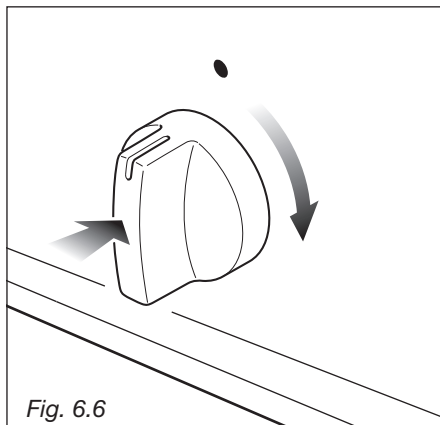

Fig. 6.6
- 2) Lightly press and turn the temperature knob clockwise (fig. 6.6) to the  position (fig. 6.1).